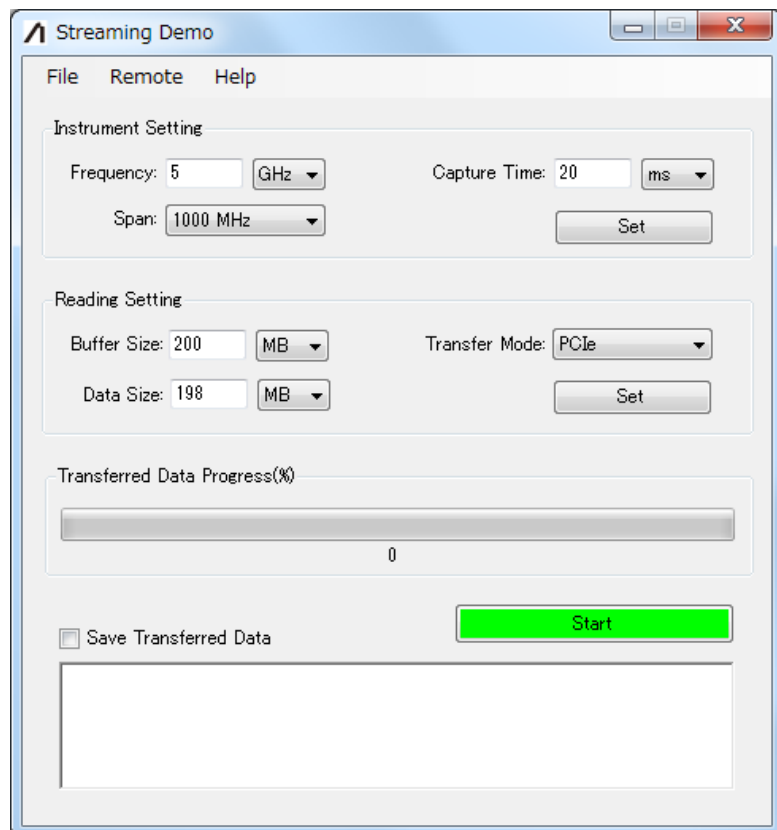

Figure 4.1.1-1 Streaming Demo Window
2. When the sample software is started, the window shown in Figure 4.1.1-1 is displayed.